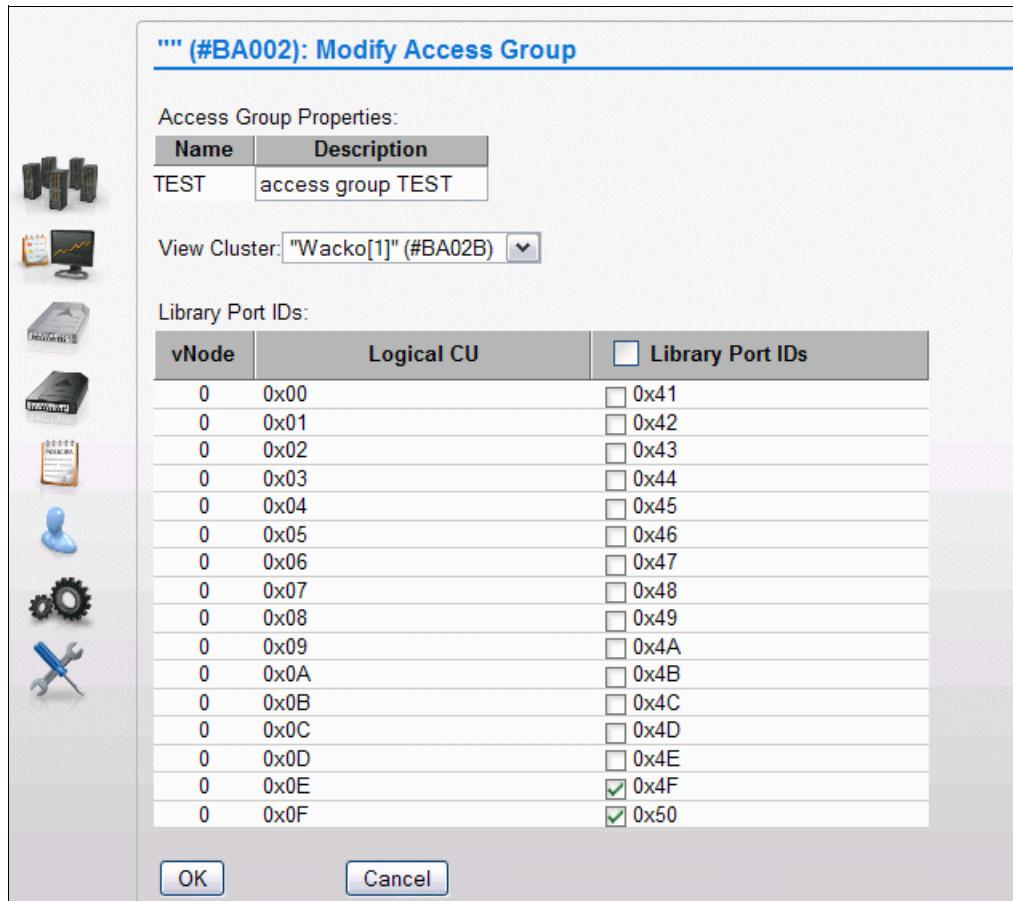

Figure I-11 Modify an access group for TEST LPAR
2. Use the menu to select Cluster 1 to add Lib Ports 4F and 50 to the TEST access group, as shown in Figure I-11.